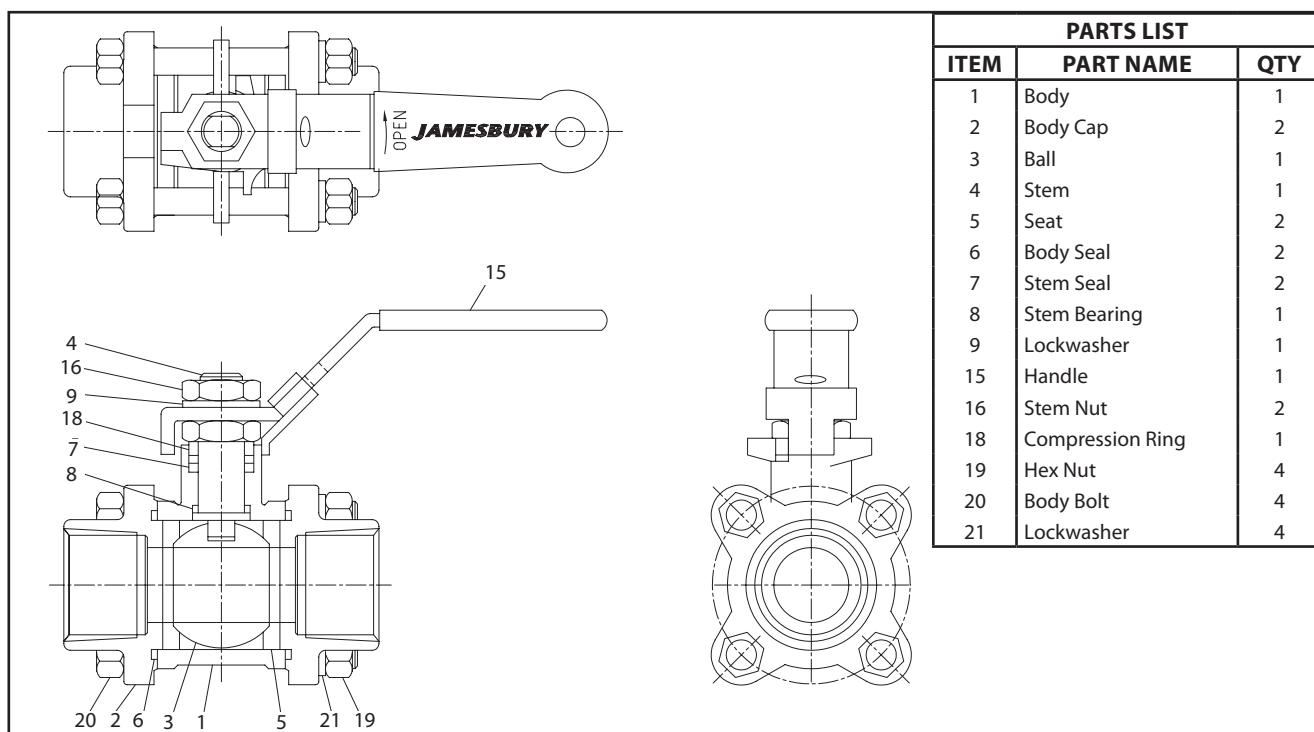

Figure 6
Although Neles *Jamesbury* valves are designed to work under severe conditions, proper preventative maintenance can significantly help to prevent unplanned downtime and in real terms reduce the total cost of ownership. Neles recommends inspecting valves at least every five (5) years. The inspection and maintenance frequency depends on the actual application and process condition. Routine maintenance consists of tightening the stem nuts (16) in (**Figure 6**) 1/4 turn periodically to compensate for stem seal wear. The valve should be fully closed during the tightening. **CAUTION:** Tightening hex nuts (16) too severely will shorten the life of the shaft seals.
- c. From **Figure 6**, the ballooned part number, part name and quantity required.